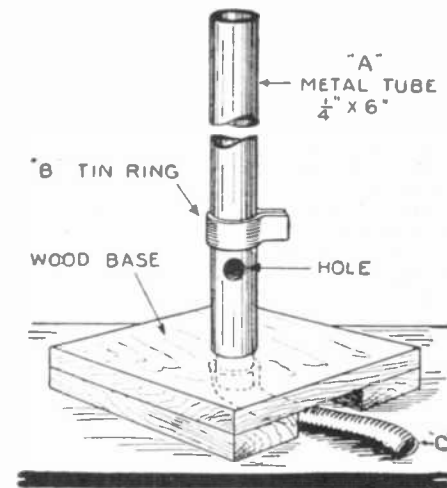

FIG. 2
Fig. 2 shows a simplified construction, dispensing with one of the thermometers, of what is shown as a more elaborate apparatus in Fig. 1. Fig. 3 shows the use of the high temperature still, for the heavier products.
A tin ring wide enough to cover the hole just drilled, fitting snugly yet so it will slip up and down on the tube, is needed to regulate the air supply. A wooden base may be constructed as is shown. In Fig. 2 (A) is the metal tube, (B) the tin slide ring, and (C) the rubber tube leading to the gas supply. In lighting this burner it is rather important to cover the air aperture with the sliding ring first. Then after lighting it you must gradually give more air until the desired non-luminous flame appears.